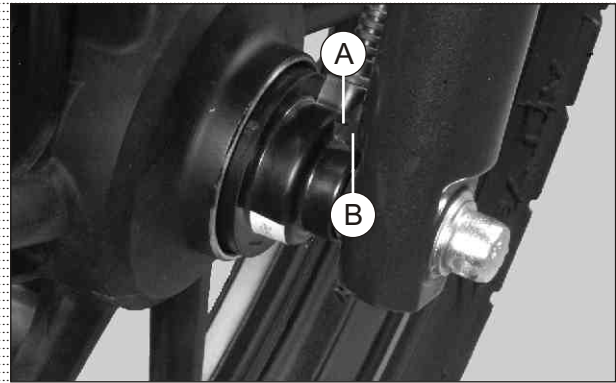

Fig. 6.12
- While assembling match the pip (A) in the speed sensor with the stopper (B) on the front fork tube outer L. (Fig. 6.12)